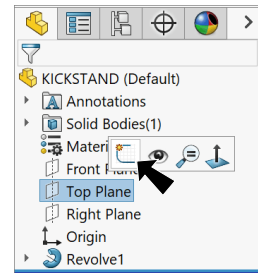

Fig. 7
Step 1. Click **Top Plane**  in the Feature Manager and click **Sketch**  on the context toolbar, **Fig. 7**.